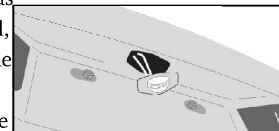

Fig. 3
5. Some vehicle's may have a hole available to pass the wire through, (Fig. 3) such as where the license plate light is mounted, or you can drill a hole close to where the power cable is attached to the camera. (Fig. 4) Once you have chosen where the cable will enter the vehicle's body, remove the camera. If you are able to use an existing opening, skip the next two steps.